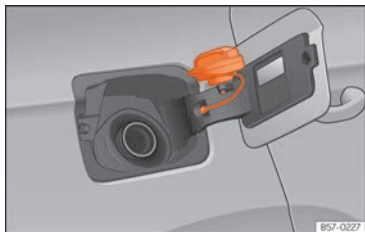

Fig. 59 Fuel tank flap with tank cap attached.
- Place it in the space on the hinge of the open flap »» **Fig. 59**.